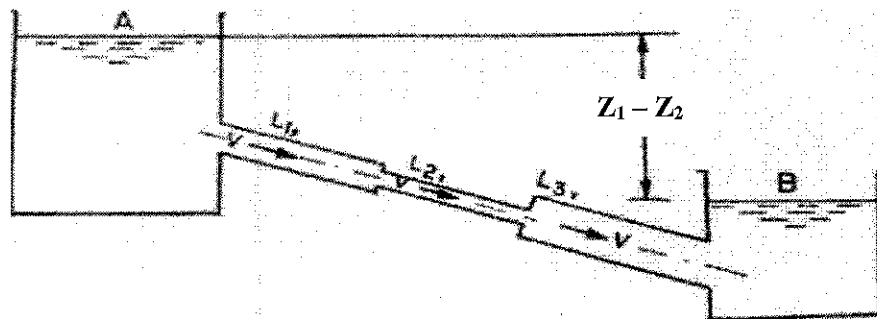

Figure 4(c)/Rajah 4(c)
- c) Referring to **Figure 4(c)**, two large reservoirs was connected by three pipes with the following measurement: $L_1 = 30$ m, $L_2 = 15$ m, $L_3 = 28$ m, $d_1 = 150$ mm, $d_2 = 100$ mm and $d_3 = 150$ mm. The entry and exit sections are sharp and suddenly changed. Tank B is 6 m below tank A. The coefficient of friction is 0.01 for all three pipes and coefficient of contraction, C_c is 0.6. Calculate the flow rate, Q .